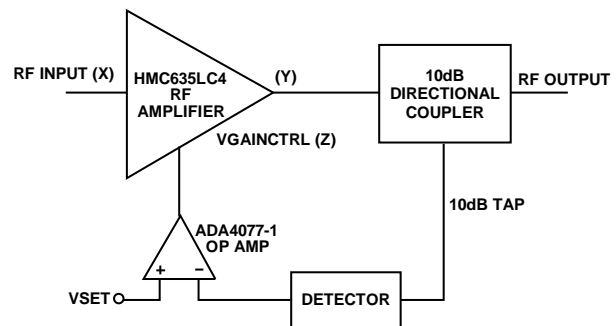

Figure 3. Simple AGC Loop
The central idea behind an AGC circuit of this type is to stabilize the amplitude of an RF signal that may vary based on frequency, temperature, or time. Typically, this circuit has two inputs. The first input is an RF input of a given amplitude whose envelope requires stabilization. The second input is a dc control applied to what is called the VSET input, and it is this input that is used to set the output amplitude. This simple loop is shown in Figure 3.
Figure 3 shows that the difference amplifier is used to compare the VSET voltage to a voltage generated by the detector circuit. The detector converts the RF amplifier output amplitude to a dc voltage. Because the RF input (X) is injected in the middle of the loop, the effect of any variation at X is minimized at the RF output (Y). This effect is true as long as the total loop gain remains high. This effect is explained by the following equations:
The circuit, as built, is more complex than can be described by the simple model of Figure 3. In the actual circuit, the VVA function is broken into two components. The first component is an HMC985A VVA, which provides attenuation from approximately 3 dB at $V_{CTRL} = -2.4$ V to approximately 40 dB attenuation at $V_{CTRL} = 0$ V. An HMC635 RF amplifier is used for the gain stage, providing 18 dB of gain over the frequency range of interest.